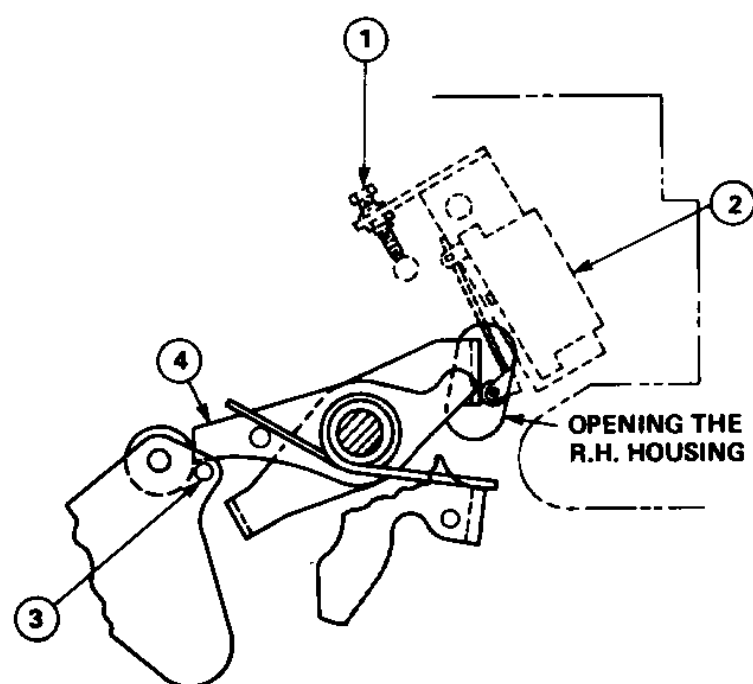

Fig. 5 – Latch Check Switch Adjustment
5.9 OPERATING MECHANISM (See Figure 5)